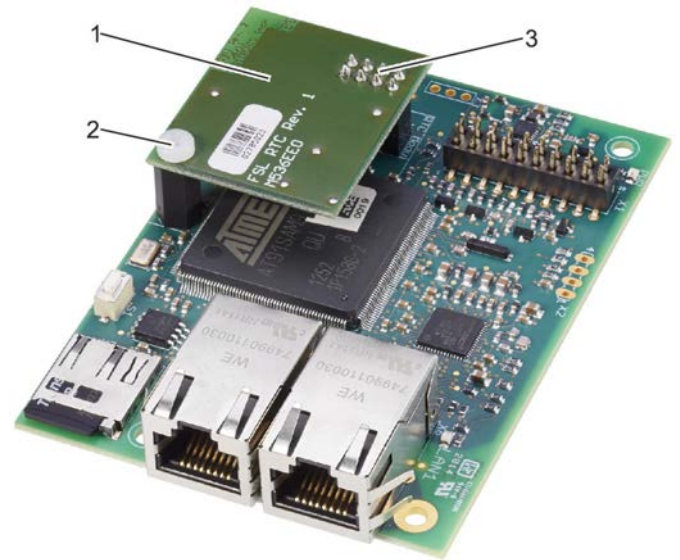

Fig. 46: Mounting the RTC module
2. ▶ Remove the fixing screw (Fig. 46/2) of the RTC module (Fig. 46/1).
5. ▶ Slot the RTC module (Fig. 46/1) with the pins (Fig. 46/3) onto the 8-pole slot of EM-IP.
6. ▶ Fix the RTC module with the fixing screw (Fig. 46/2) to EM-IP.